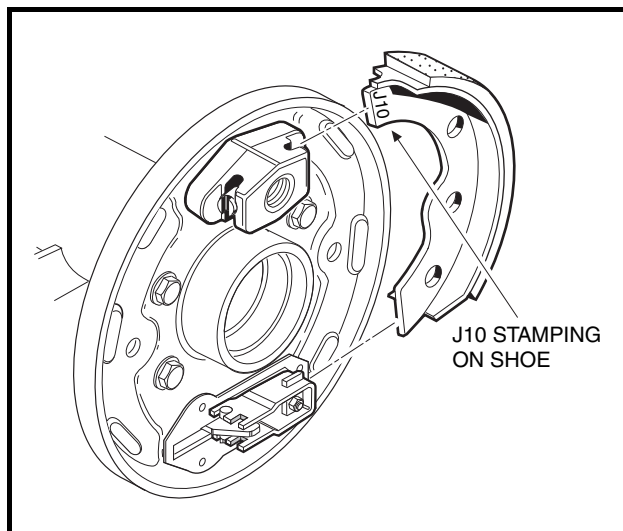

Figure 6-23 Position Shoes
1. Position one shoe in the slots in the mounting block anchor piston and brake actuator (**Figure 6-23, Page 6-11**). See following **WARNING**.
- When installing brake shoes, the shoes must be oriented with tips stamped J10 inserted into the mounting block anchor piston slots rather than into the brake actuator slots (**Figure 6-23, Page 6-11**). Incorrectly installed brake shoes will be too tight and make adjustment of the brake impossible.